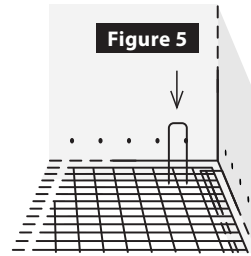

Figure 6
8. **DOOR:** Slide the front door into the slot you have made in front of the braces. **Figure 6.**